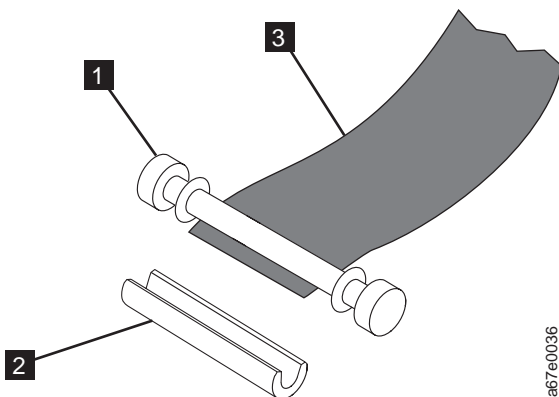

Figure 126. Removing the C-clip from the leader pin. Use your fingers to push the C-clip from the leader pin.
5. On the leader pin (**1** in Figure 126), locate the open side of the C-clip **2**. The C-clip is a small black part that secures the tape **3** to the pin.